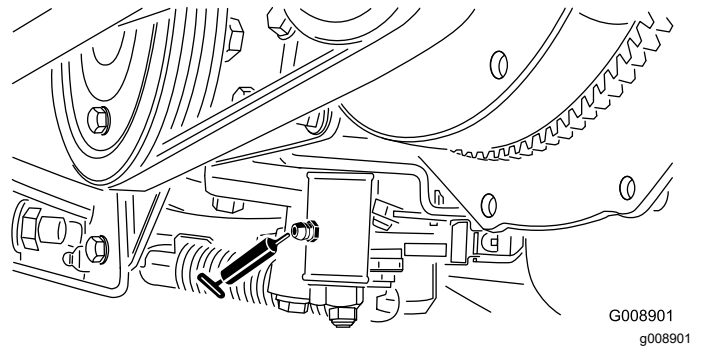

Figure 52
- Neutral adjust mechanism (Figure 52)